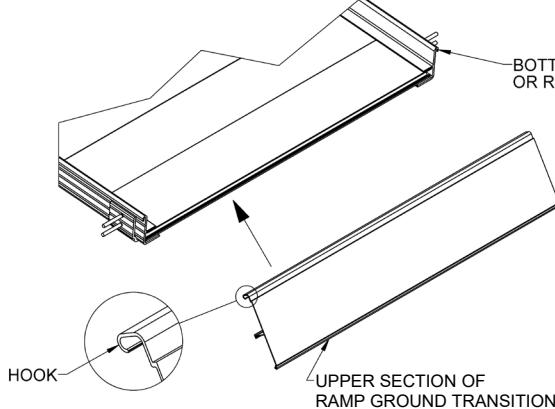

FIG. 3.11
3.5.2. Lift the lowest end of the ramp/ramp run and bring the upper section of the HARRGT into the ramp end tread until the "hook" is engaged (FIG. 3.11).